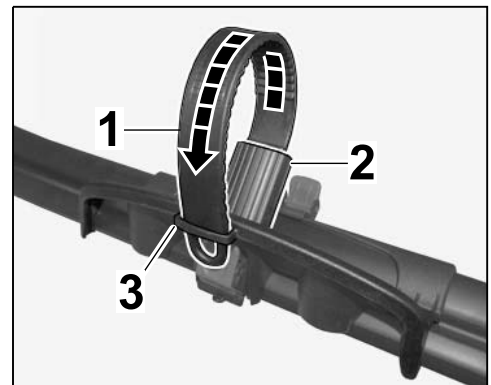

Figure 37 (without bicycle/racing bike)
8.2 Fold up the tension strap and fit it in the tab on the wheel mount (⇒ *Figure 37 (without bicycle/racing bike)*).